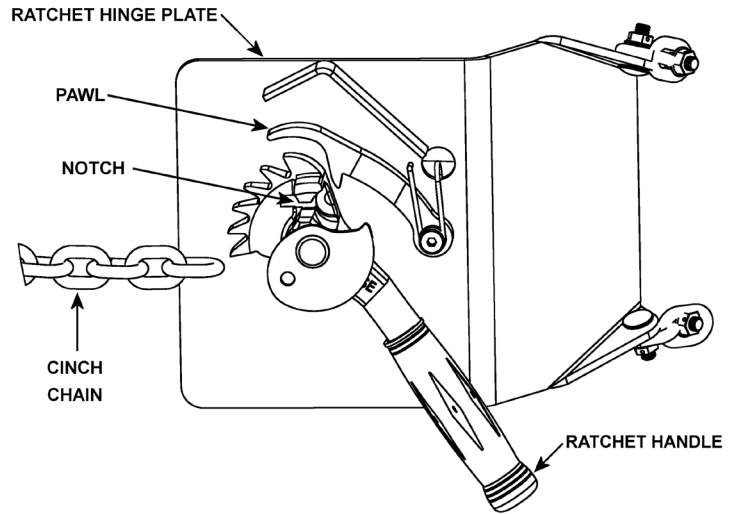

Figure 3.2
3. **Attaching drum:** Drape cinch chain across front of drum and engage chain link into slot in ratchet (Figure 3.2). Turn ratchet clockwise to tighten cinch chain. If ratchet turns until pawl is beyond last ratchet tooth, turn ratchet back and slide next link into ratchet slot and try tightening again. Cinch chain must be held tightly against drum with pawl engaged securely in ratchet teeth.